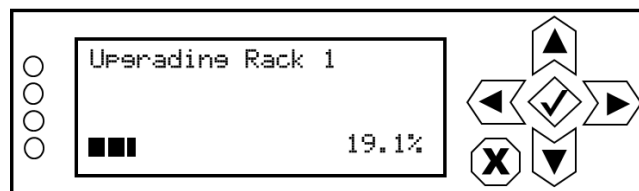

Figure 15: Controller UI – ‘Upgrading Rack’ screen(s)
- (h) When the exciter upgrade(s) is (are) complete, the controller UI will display the screen in Figure 15. This upgrade may take up to five (5) minutes for each rack (1 through 6, as applicable) in the transmitter. Note: one rack equals four (4) RF power modules; GV3.5 and GV5 transmitters only have two (2) RF power modules.